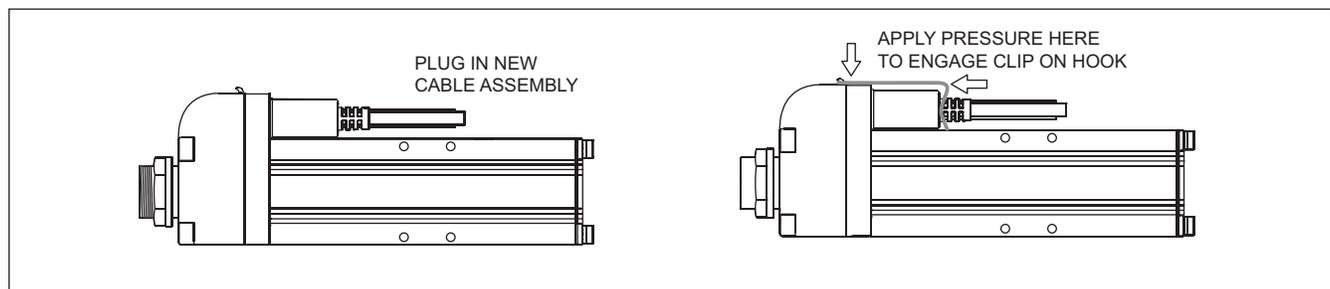

Figure 3.2 (left) Plugging in the new cable assembly and (right) fitting the retaining clip.
- Plug the 15-pin D-type plug into the connector on the forcer and engage the connector retaining clip as shown in Figure 3.2.